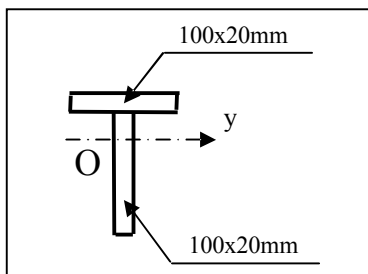

Fig. 8
09) The plastic bending moment (limit bending moment) for the cross-section represented in Fig. 8 is: